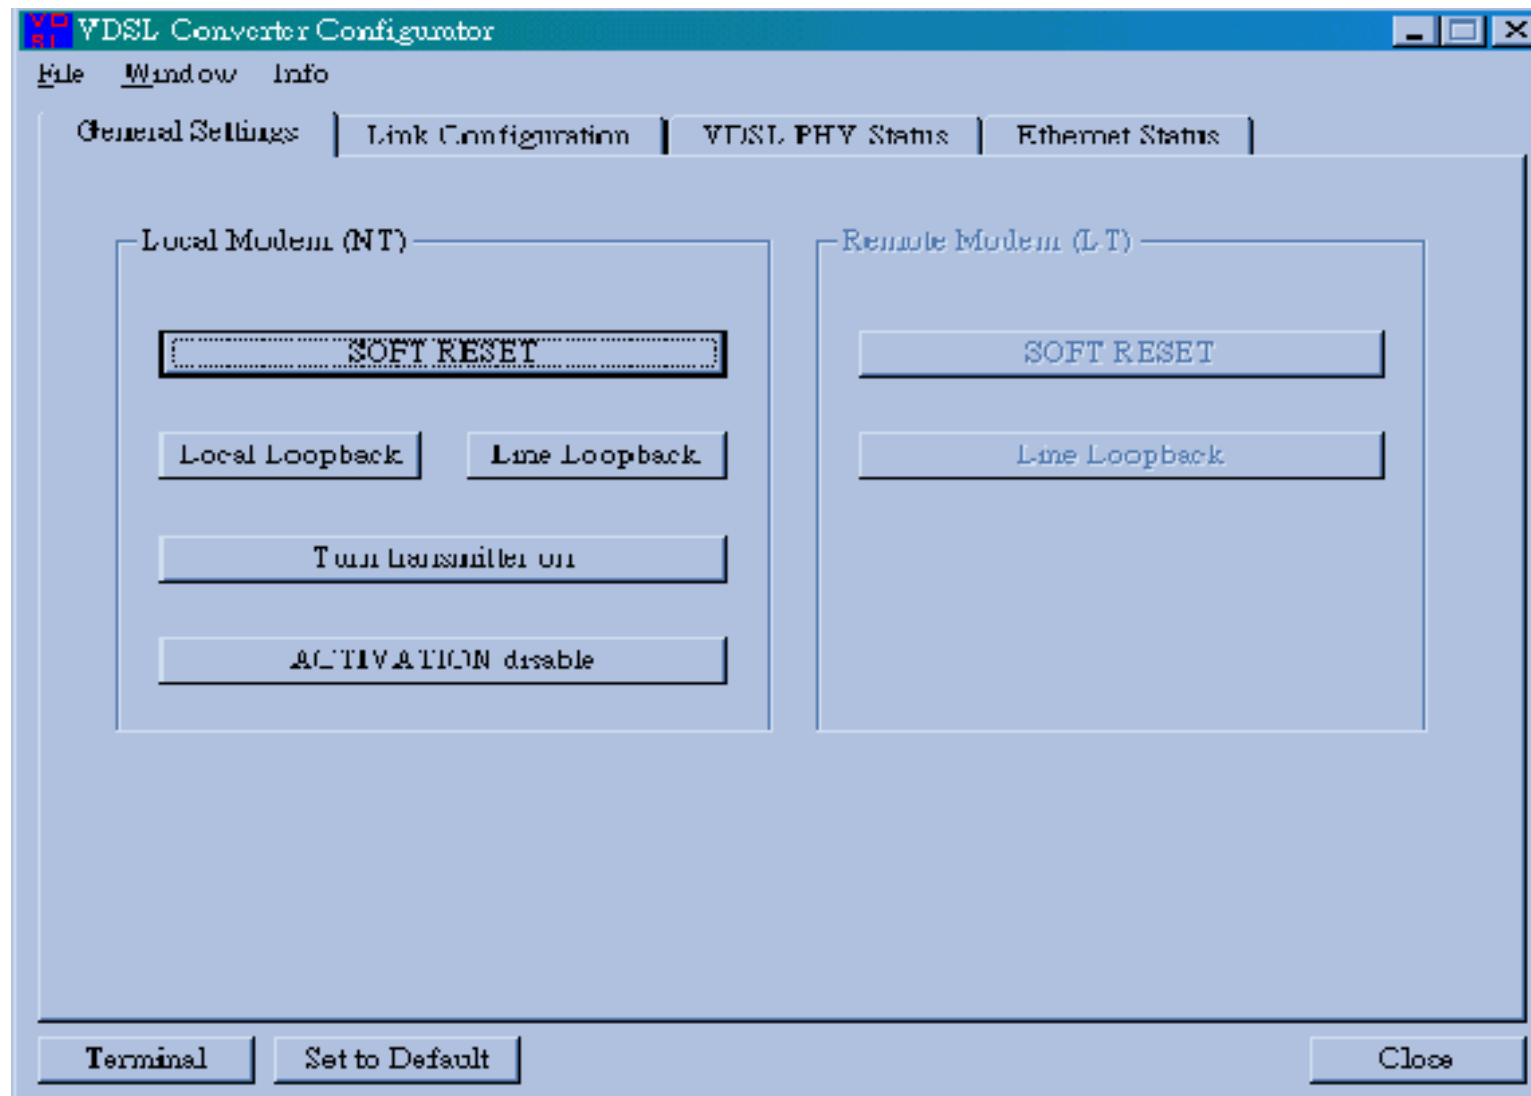

Figure 1.2
8. You will now see **Figure 1.2**